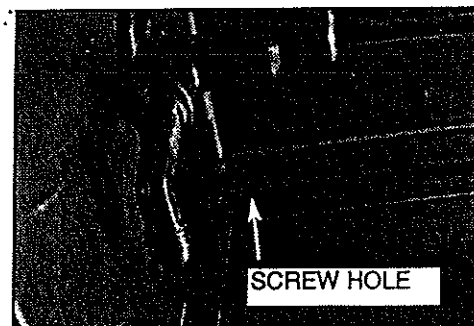

Fig. 3
4. Lock the Side Burner in place by re-inserting (1) hex head screw in the front edge of side burner. (See Fig. 3)